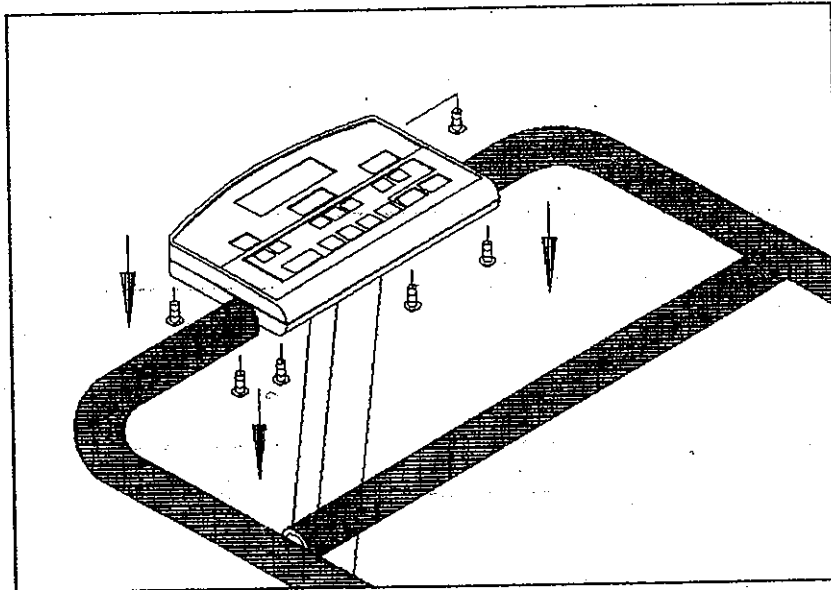

Fig.1
1. Remove the six screws securing the electronics package (see Fig. 1).